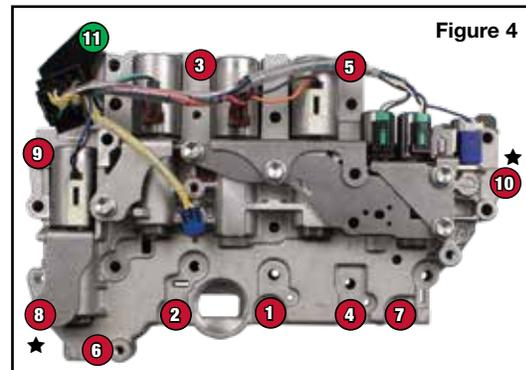

Figure 4
- Tighten first 10 bolts in sequence shown to 96 in-lb. Tighten last bolt to 85 in-lb (**Figure 4**).